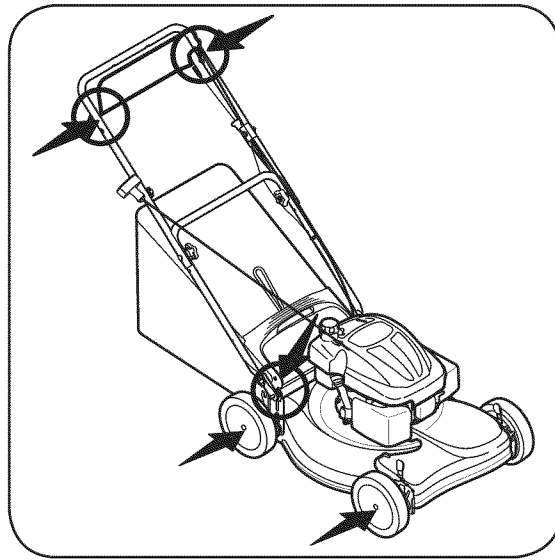

Figure 5-1: Areas to lubricate on mower.
- Lubricate pivot points on the blade and drive control at least once a season with light oil. The controls must operate freely in both directions. See Figure 5-1.